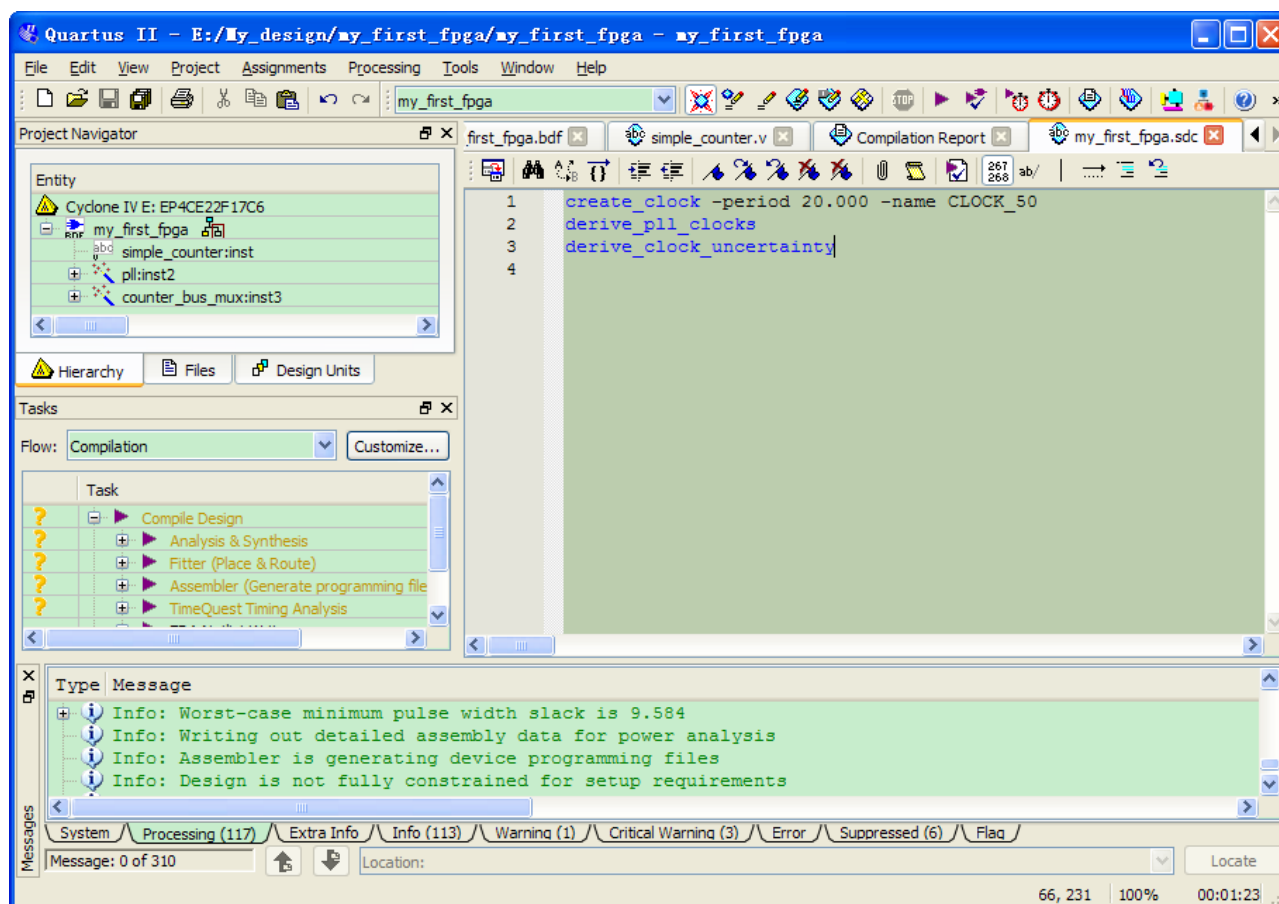

Figure 6-43 Default SDC
4. Save this file as **my_first_fpga.sdc** (see Figure 6-43)